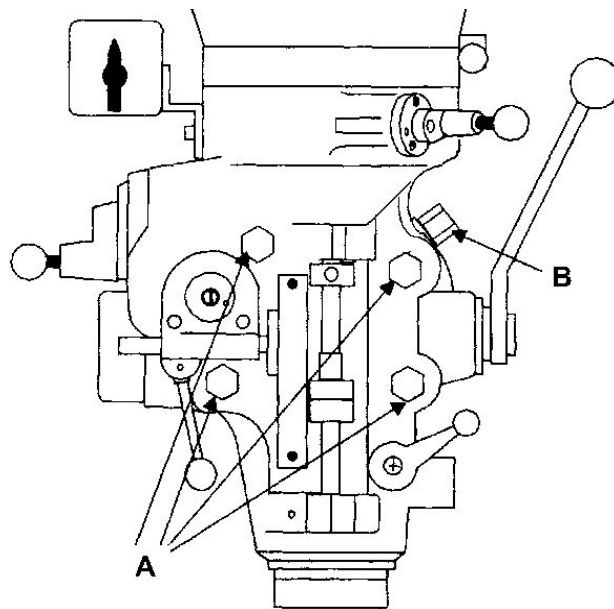

Figure 20
1. Loosen four large hex nuts that secure the mill head to the ram adapter (refer to Figure 20).
2. Turn the worm nut (B, Figure 20) to tilt the head left or right as required. Use the scale on the ram adapter to set the desired angle.